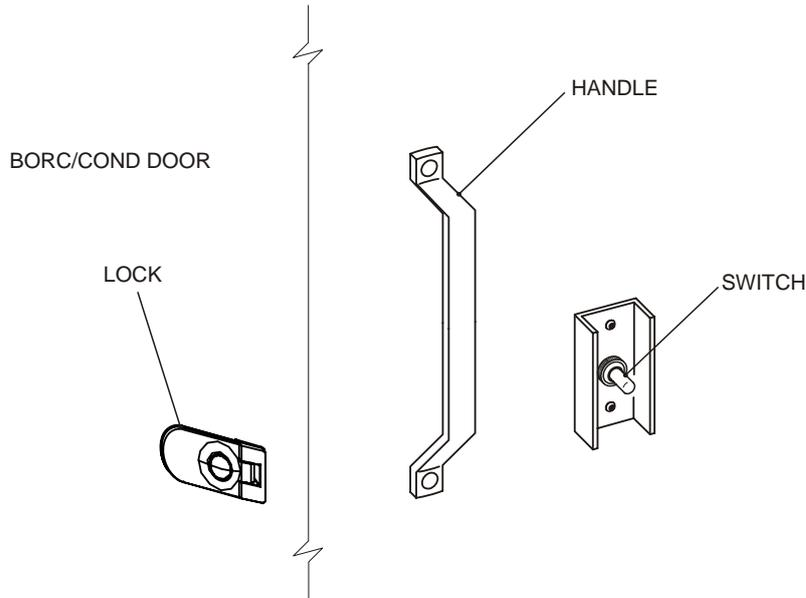

Figure 4 Cargo Area Light Switch
- 15.** To remove a cargo area light switch (Figure 4):